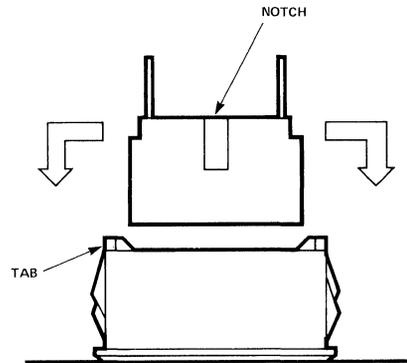

Figure 1. Installation of a Light Bar into a Panel Mount
2. Place the front of the mount against a solid, flat surface. A film legend with outside dimensions equal to the outside dimensions of the light bar may be placed in the mount or on the light bar light emitting surface. Press the light bar into the mount until the tabs snap over the back of the light bar4. When inserting the HLMP-2898, align the notched sides of the light bar with the mount sides which do not have the tabs. (See Figure 1)